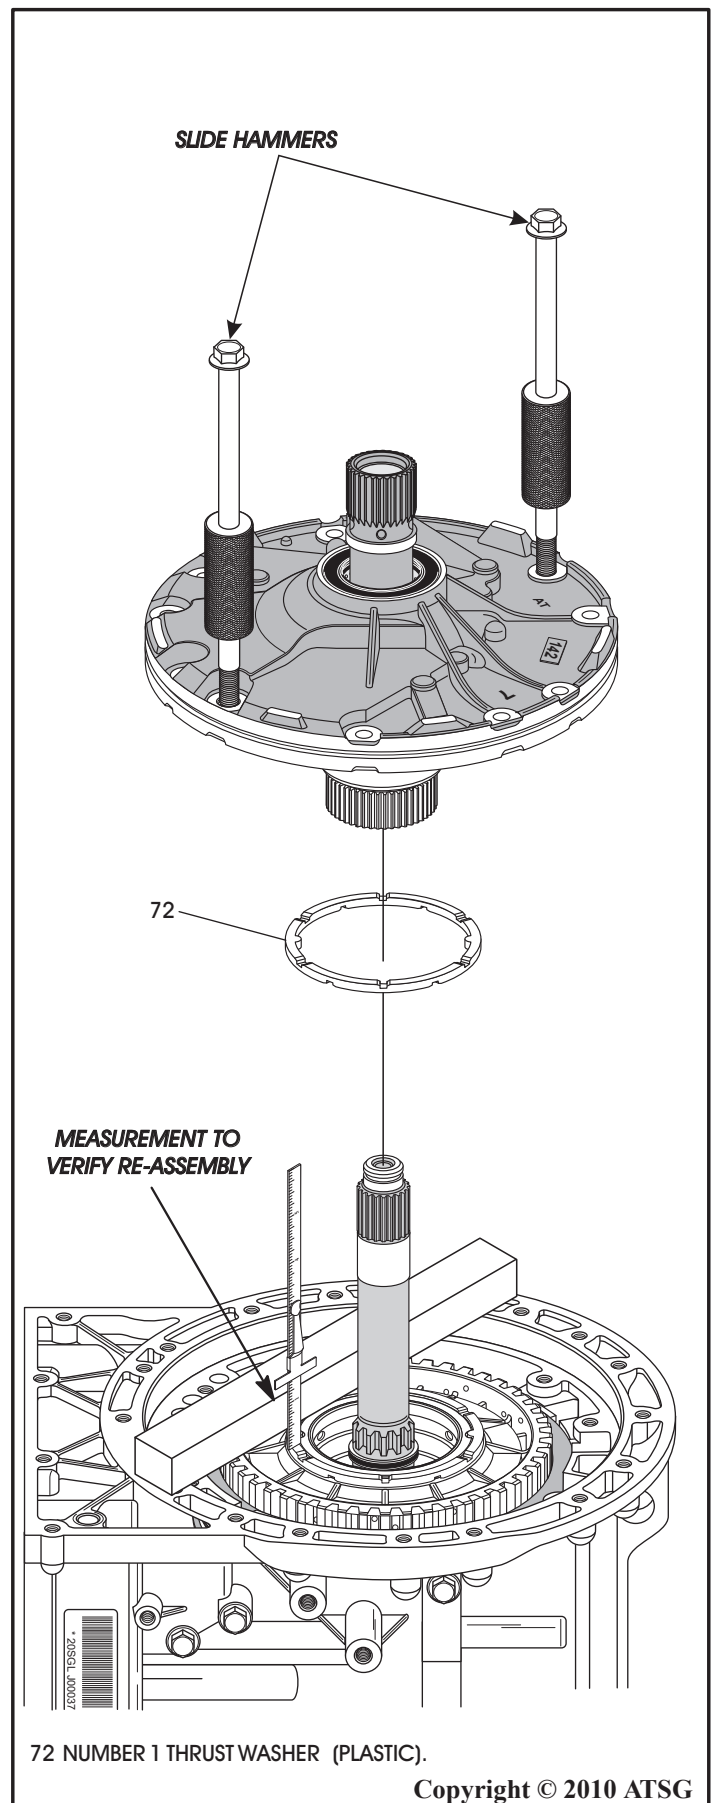

Figure 54
30. Install slide hammers into oil pump in positions shown in Figure 54.
31. Using the slide hammers to loosen the oil pump and remove oil pump as shown in Figure 54.
33. Remove the number 1 plastic thrust washer, as shown in Figure 54.
**Important: If the washer did come off with the oil pump, put it back on the K3 clutch housing and measure distance from straight edge to thrust washer, as shown in Figure 54. Record this measurement to verify proper re-assembly.**